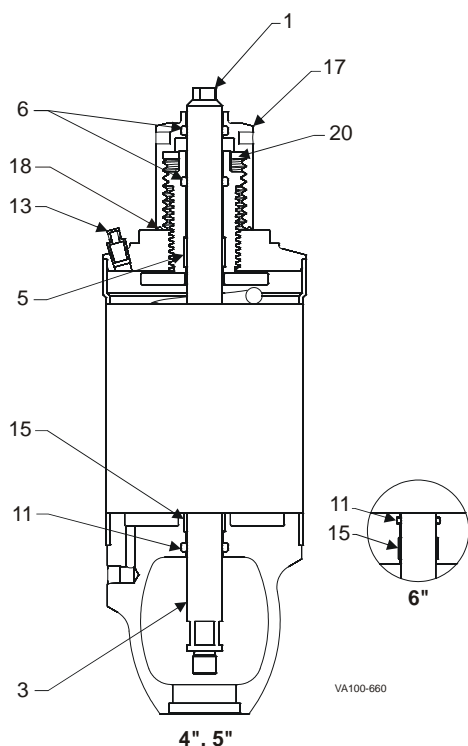

Figure 41: 4", 5" and 6" Air-to-Raise, Adjustable-Spring Actuator
4. Unscrew and remove the locknut cover (Figure 41, item 17). Unscrew and remove the adjustment screw (item 20). Check for free movement of the stem to ensure that no compression remains.
5. Inspect the o-ring (item 6) in the adjustment screw (item 20). Remove the worn o-ring seals. Coat the new o-ring seals with Dow Corning® #7 Silicone Lubricant or equivalent, and replace them.
6. Remove the PTFE guide bearing (item 5) in the adjustment screw by placing a screwdriver behind the bearing to pry it away from the wall of the yoke (item 12). Use needle-nose pliers to grip and remove the bearing.
7. Using wrenches on the upper and lower wrench flats, unscrew and remove the lower stem (item 3). **Do not remove the upper stem (item 1), as it locates an internal support washer.**
8. Remove and inspect the yoke area stem o-ring (item 11). Remove the worn o-ring seal. Coat the new o-ring seals with Dow Corning® #7 Silicone Lubricant or equivalent, and replace them.
9. Inspect and replace the PTFE guide bearing (item 15) in the yoke as needed.
11. Once secure, screw in the adjustment screw (item 20) until it is held by threads (not in its final position). Refer to Adjustable-Spring Actuators: Pressure Setting (Table 2 on page 17) for setting it to the desired loading pressure.